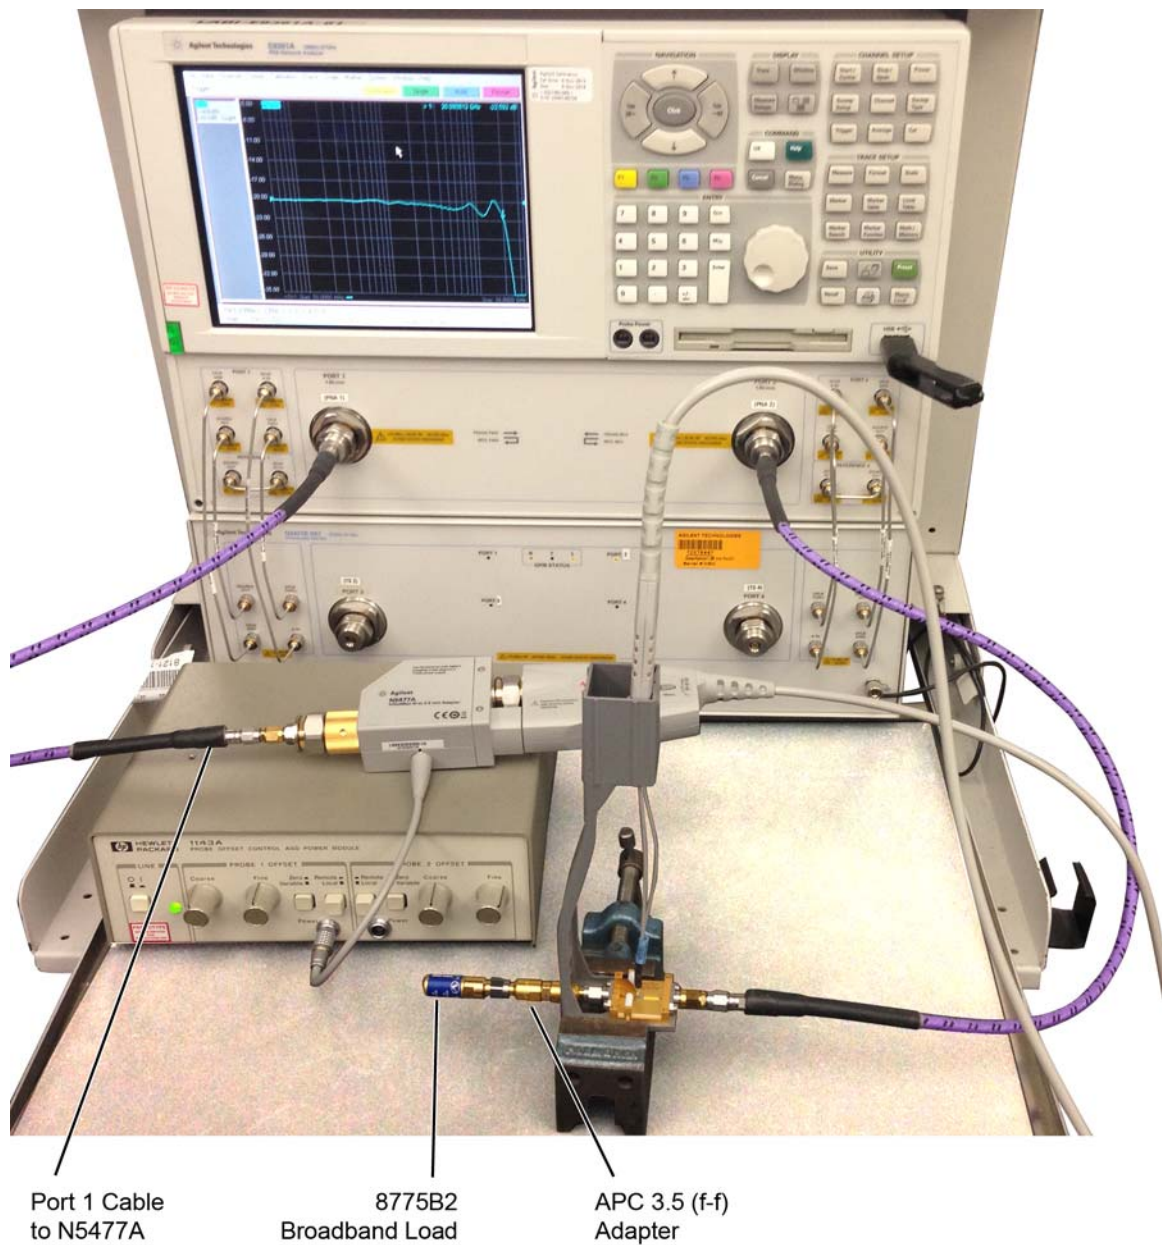

Figure 102 Test Setup to Measure V_{out} of Probe
- 12 As shown in **Figure 102** on page 134, move the Port 1 cable the N5477A. Connect the 8775B2 broadband load as shown in the figure.